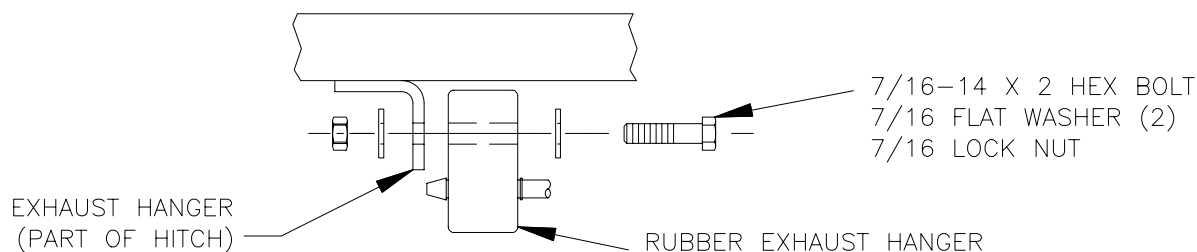

FIGURE 4
9. ATTACH REARWARD EXHAUST HANGERS TO HITCH AS SHOWN IN FIGURE 4.